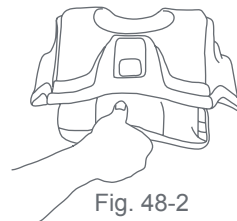

Fig. 48-2
- If the Seat Angle Indicator shows **ANY** red, the Safety Seat is either **too upright or too reclined**. If the seat is too upright, extend the foot one position at a time just until no red shows. To extend the foot of the base, pull downward on the hand hold as shown in Fig. 48-2 while holding onto the base. To retract the foot, press inward on the lock button as shown in Fig. 48-3 and push upward on the foot. Be careful not to pinch your finger as the foot retracts. Check the level indicator to see if the seat is now level.